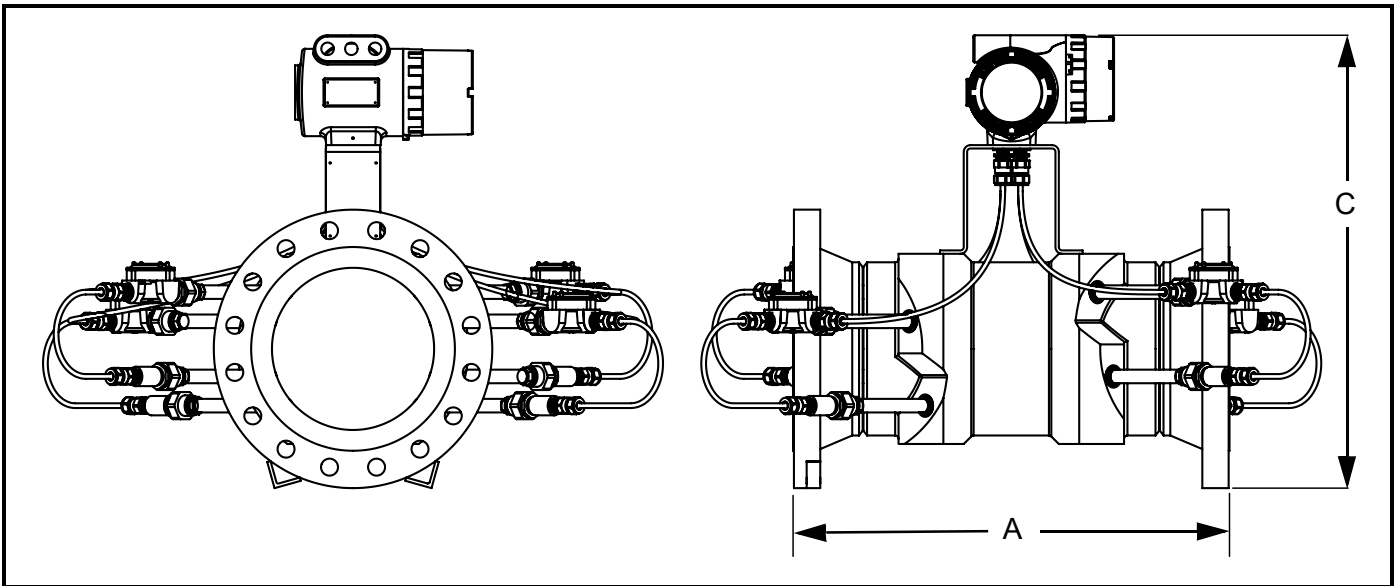

Figure 3: Flowcell Assembly
**Note:** Use Figure 3 on page 6 to identify the A and C measurements in Table 4 below.